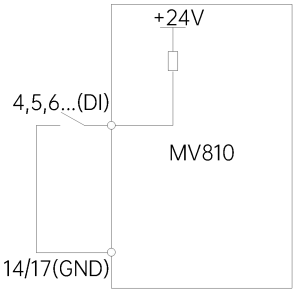

Fig. 4-16 Wiring diagram with the internal +24 V power supply of the drive is used
(2) P09.11=1 (set digital terminal open circuit voltage to 24 V)
① Dry contact mode, shown in Fig. 4-16.